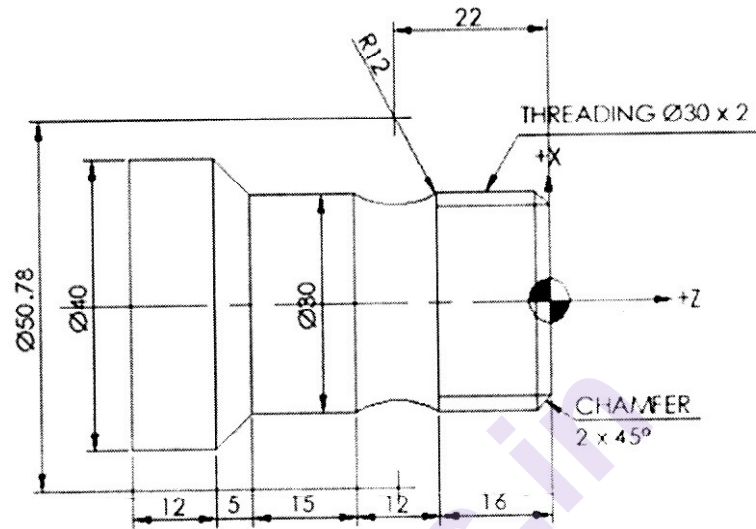

Fig. 1
Fig. 1 for Q.9 b)
b) Write CNC program using G and M codes to turn the component shown in fig. 1 having Stock size is $\phi 40$ mm. Use rough and finish canned cycle. Assume suitable data for speed and feed. [10]